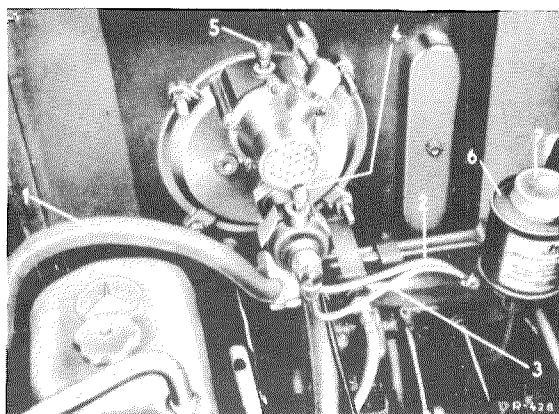

Fig. 42 — 1/4
- b) lower bleed screw (4) at the ATE power brake T 50;
- g) upper bleed screw (5) at the ATE power brake T 50;
- h) lower bleed screw (4) at the ATE power brake T 50;
3. To start the bleeding operation remove the rubber protective cap of the bleed screw and fit the bleeder hose over the bleed screw nipple (Fig. 42 — 1/5).
Note: Fig. 42 — 1/5 shows the bleeding operation at the right front wheel.
Immerse the free end of the bleeder hose in a clean glass container partly filled with brake fluid until the end of the bleeder hose is below the fluid level (Fig. 42 — 1/5).